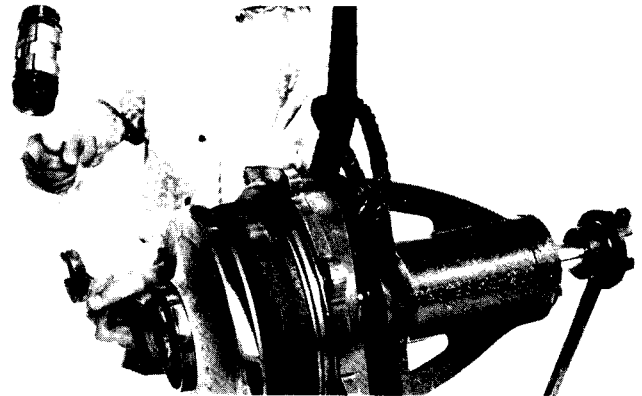

Fig. 11. Removing the impeller nut. (K-Frame shown)
- k. Remove impeller nut No. 24 (Fig. 11). Lockwasher No. 24A is provided and is to be removed only if no self locking impeller nut (plastic insert type) is used.